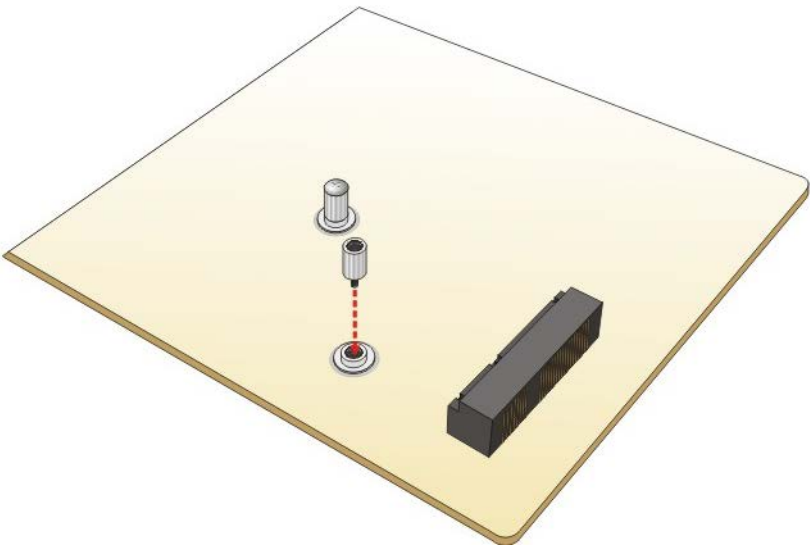

Figure 4-11: Installing the Standoff
- Step 2:** Install the standoff to the screw hole for the half-size PCIe Mini card. Install the supplied standoff to the screw hole for the half-size PCIe Mini card (Figure 4-11).